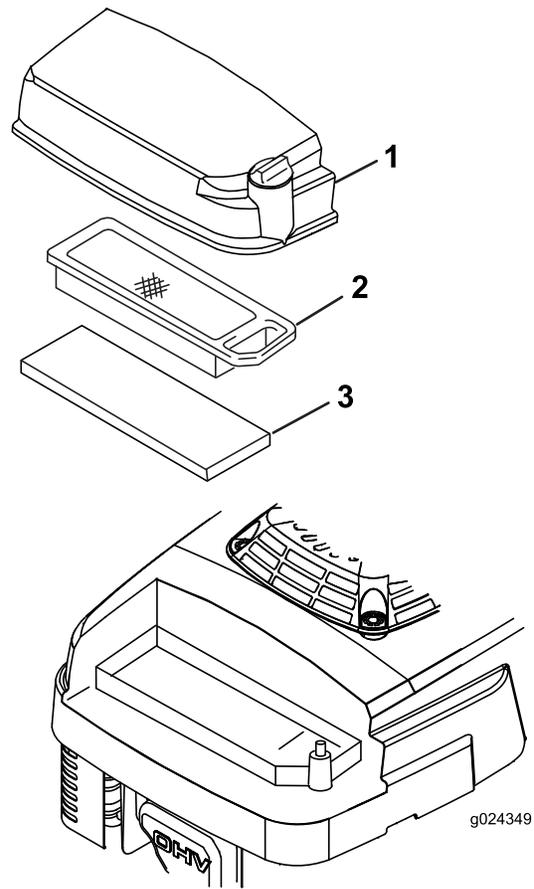

Figure 20
3. Loosen the screw on the air-filter cover (Figure 20).
5. Remove and inspect the paper air filter (Figure 20), and replace it if it is excessively dirty.
6. Remove the foam pre-filter (Figure 20) and wash it with a mild detergent and water, then blot it dry.